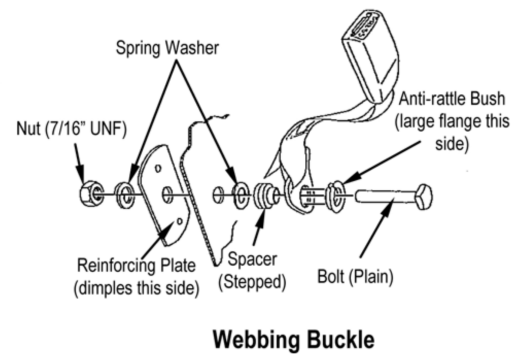

Fig. 8 (Above)
1. Assemble hardware as shown in **Fig. 8** (below)